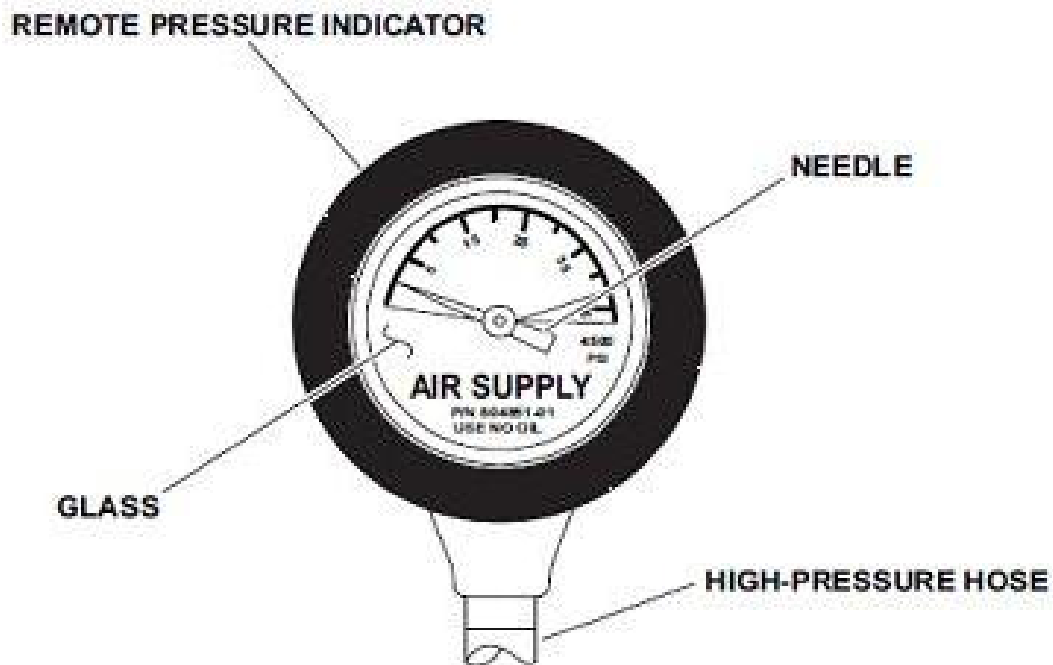

Figure 551-8ST-1004\_08 (Remote Pressure Indicator)
g. Check the remote pressure indicator during use to verify that air pressure is indicated on the remote pressure indicator. (Figure 551-8ST-1004\_08)